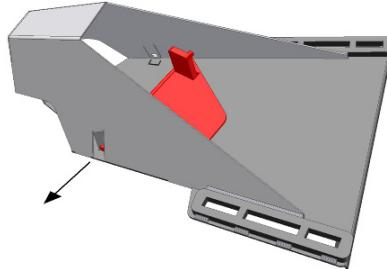

Figure 13: Rainflap Rod in Pre-Bent Hinge Tab
1. Insert one side of the rainflap rod into the pre-bent hinge tab on the sensor bracket. (**Figure 13**)